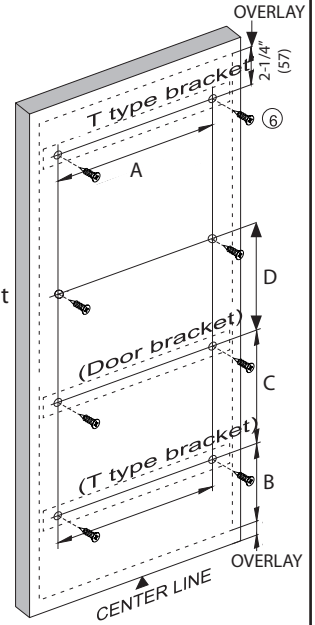

fig. 9
11) To calculate overlay measure the door and then measure the cabinet opening. $\text{Overlay} = \text{door width} - \text{cabinet opening} \div 2$. For example; the door is $12 \frac{1}{2}$ " wide, the opening is 12". $12 \frac{1}{2} - 12 = \frac{1}{2}$, then divide by 2. The overlay is $\frac{1}{4}$ ". Refer to figure 9.
13) At this point, lay your door on a flat surface and mark 6 or 8 pilot hole locations based on figure 9. Dimension "B" for face frame cabinet is $4 \frac{1}{4}$ " [108mm]. See the table for dimensions "C" and "D". Use an $\frac{1}{8}$ " drill bit pre-drill pilot holes.